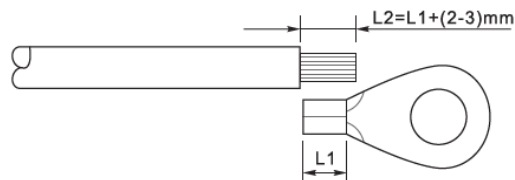

Figure 13 - Preparing the ground cable (1)
- 1) Remove an adequate length of the external insulation layer using a wire stripper, as shown in Figure 13.